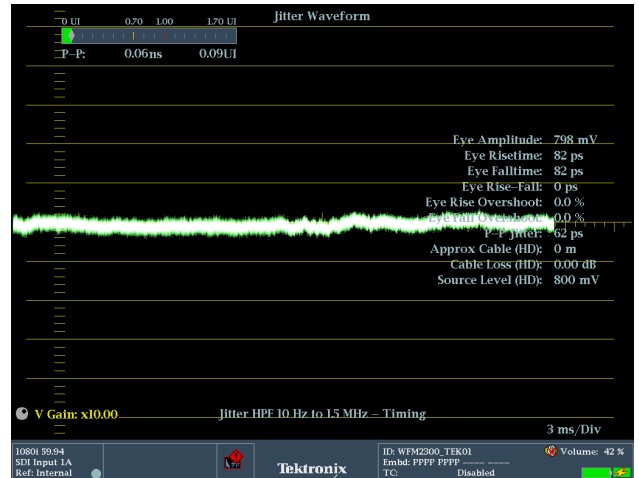
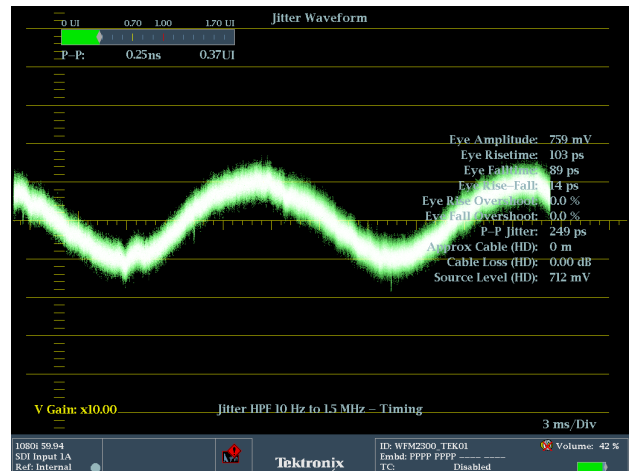

Figure 12a. Two Field Jitter display.
Figure 12b. Sinusoidal 60Hz jitter.
8. If additional gain is required the VAR Gain can be enable and increased to a maximum of ten times gain if required as shown in Figure 12a
The jitter display can be used to evaluate the types of jitter present in the signal. Relatively low random jitter will produce a flat line within the jitter display as shown in Figure 12a. Vertical deviation of the jitter display shows the amount of jitter present within the signal. In Figure 12b a simple 60Hz sinusoidal jitter has been added to the SDI signal and produces a sine wave pattern within the jitter display with an amplitude that represents the amount of jitter present within the signal in this case 0.37UI or 0.25ns.
Figure 12a and 12c jitter displays are from the same signal with different filter selections applied for the Jitter1 HP Filter. In Figure 12a the Timing (10Hz) filter is used and shows a value of 0.09UI. When the filter is changed to 100kHz (Alignment Jitter) the value is reduced to 0.05UI.
3. Using the up and down arrows to navigate to **Jitter1 HP Filter** and press right arrow to select the sub menu as shown in Figure 12a.